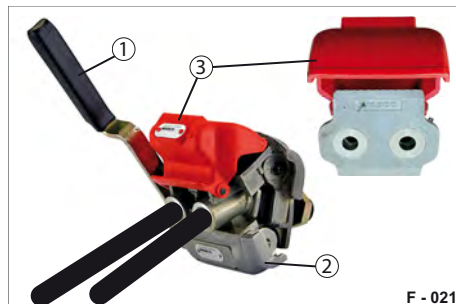

Fig. 21 Duo-Matic, uncoupled
- Pull the handle (Fig. 21/1) of the Duo-Matic quick-release coupling socket upwards and pull out the coupling head (Fig. 21/3) from under the protective cover.